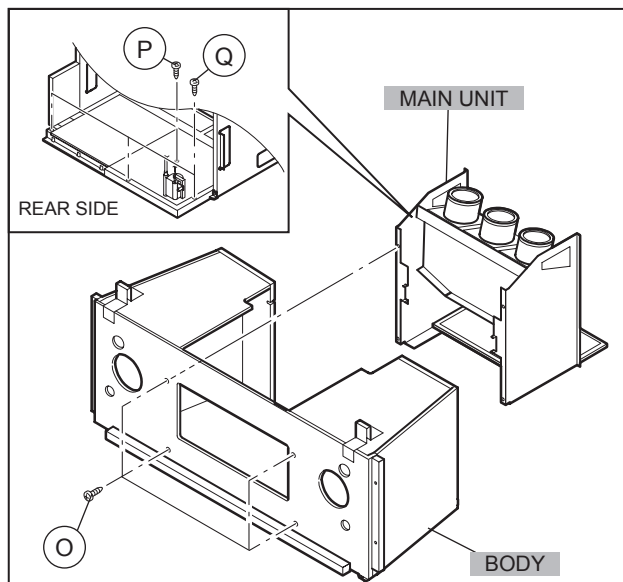

Fig.7
- (1) Remove 2 screws [X] both side of the MAIN CHASSIS.
- (2) Remove 1 screws [Y] attaching the earth wire.
- (3) Remove 1 screw [P] attaching the MAIN CHASSIS and BODY.(Fig.7)
- (4) Pull out the MAIN CHASSIS for back side.